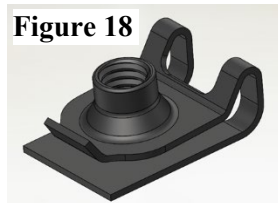

Figure 18
11. Replace the factory U-nuts at the front leaf spring mount with the included new U-nuts. **(Figure 18)**